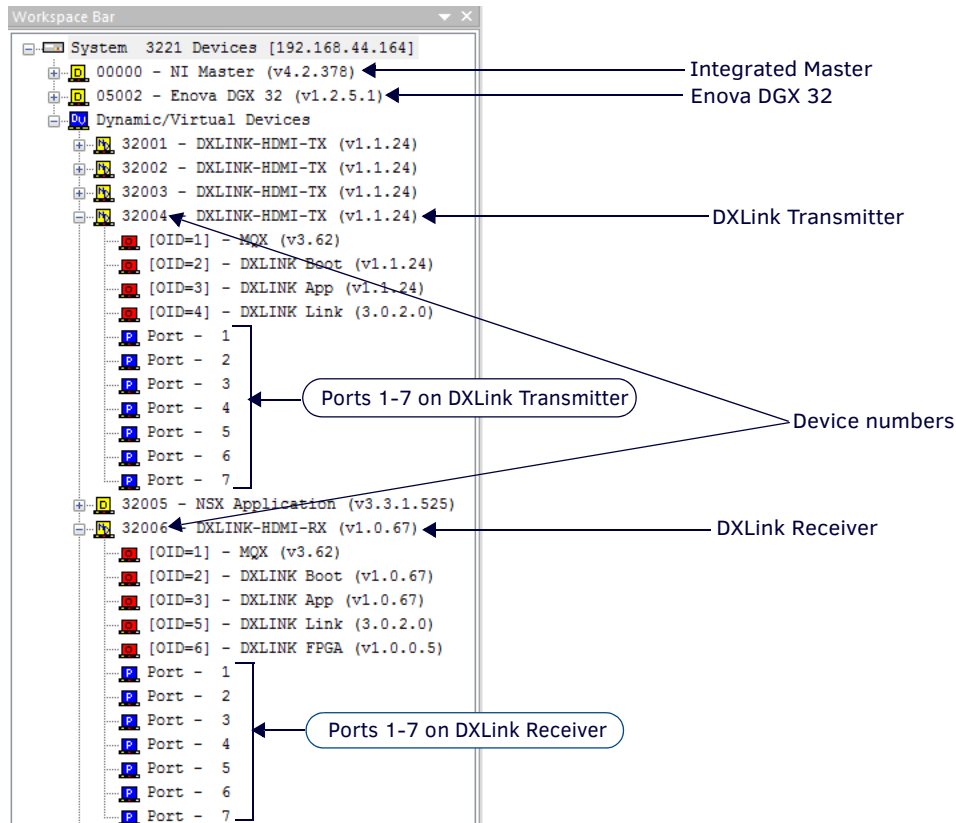

FIG. 38 NetLinX Studio – Integrated Master, Enova DGX 32, DXLink Transmitter, and DXLink Receiver
When a Transmitter and/or a Receiver are being used in conjunction with a switcher, the switcher's integrated Master is used for the IRL file transfer. FIG. 38 shows a Transmitter and a Receiver bound to the integrated Master in an Enova DGX 32 in NetLinX Studio's OnLine Tree. Follow the instructions on the top of page 61 to prepare for IRL file transfer and the instructions on page 62 for the actual transfer.
7. Determine the Device Number assigned to the target Transmitter or Receiver when it was bound. For the Device Number location, see FIG. 38 on the previous page.